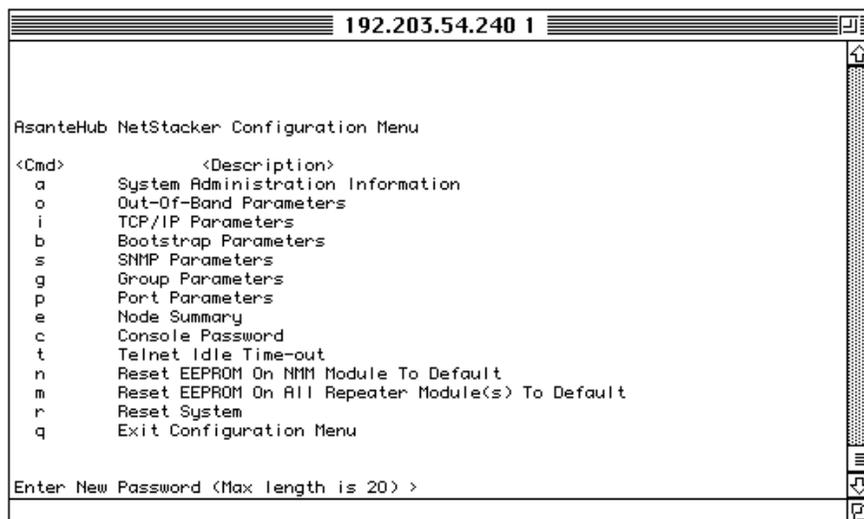

Figure 25 Enter New Password Prompt
- 3** Type **c** for Console Password. The Command> line changes to prompt you for the new password, as shown in Figure 25.